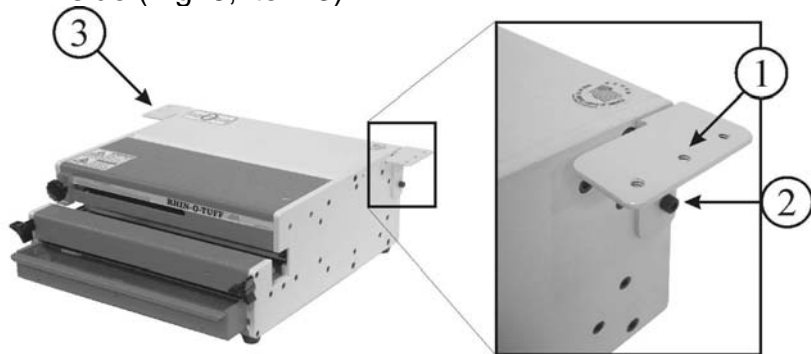

Fig. 5
Locate the OD-HD Bracket and screw pack. Mount the RIGHT labeled bracket (Fig. 5, item 1) with the screws (Fig. 5, item 2) and Allen wrench provided. Repeat on LEFT side (Fig. 5, item 3).